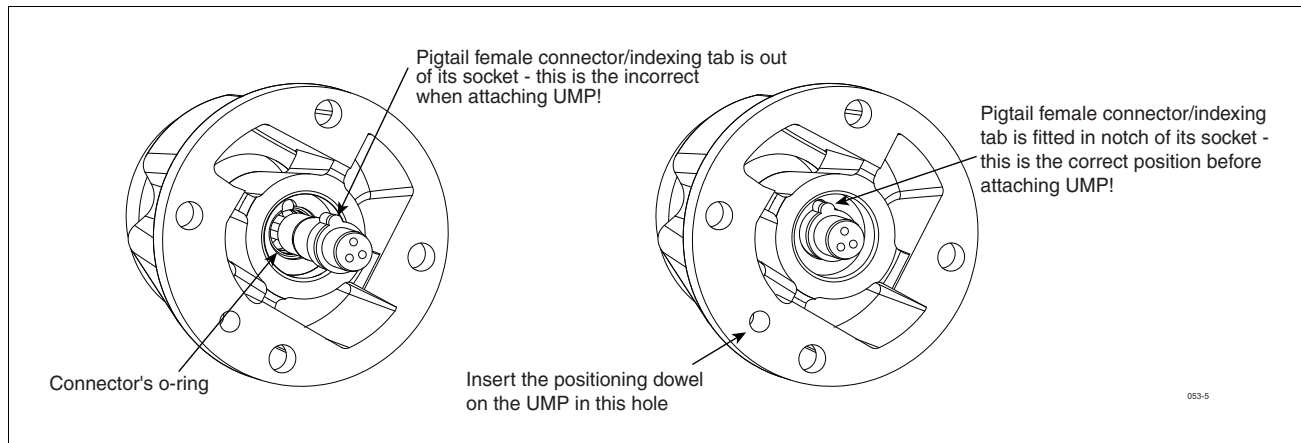

Figure 8. Verifying Pigtail's Female Connector Is Seated Properly In Discharge Head
10. Pull the pigtail connector in the discharge head out far enough to see the o-ring in the sidewall of its socket (see Figure 8). Remove the connector's o-ring from the connector's socket and discard it. After referring to the instructions in the Discharge Head O-ring Kit, select the correct o-ring from the kit and lubricate it with petroleum jelly. Slide the new o-ring over the pigtail connector and push it in the groove in the wall of the connector's socket. Lubricate the pigtail connector body with petroleum jelly and push it back into its socket, making sure its index tab is in the socket's notch.